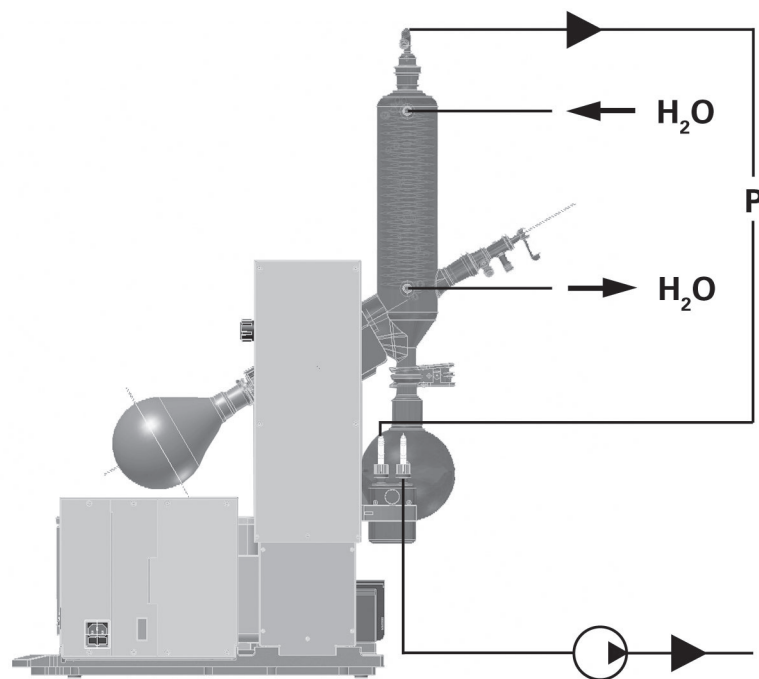

Fig. 14
- ☞ Connect the water hoses to the condenser according to the counter-flow principle (Fig. 14).